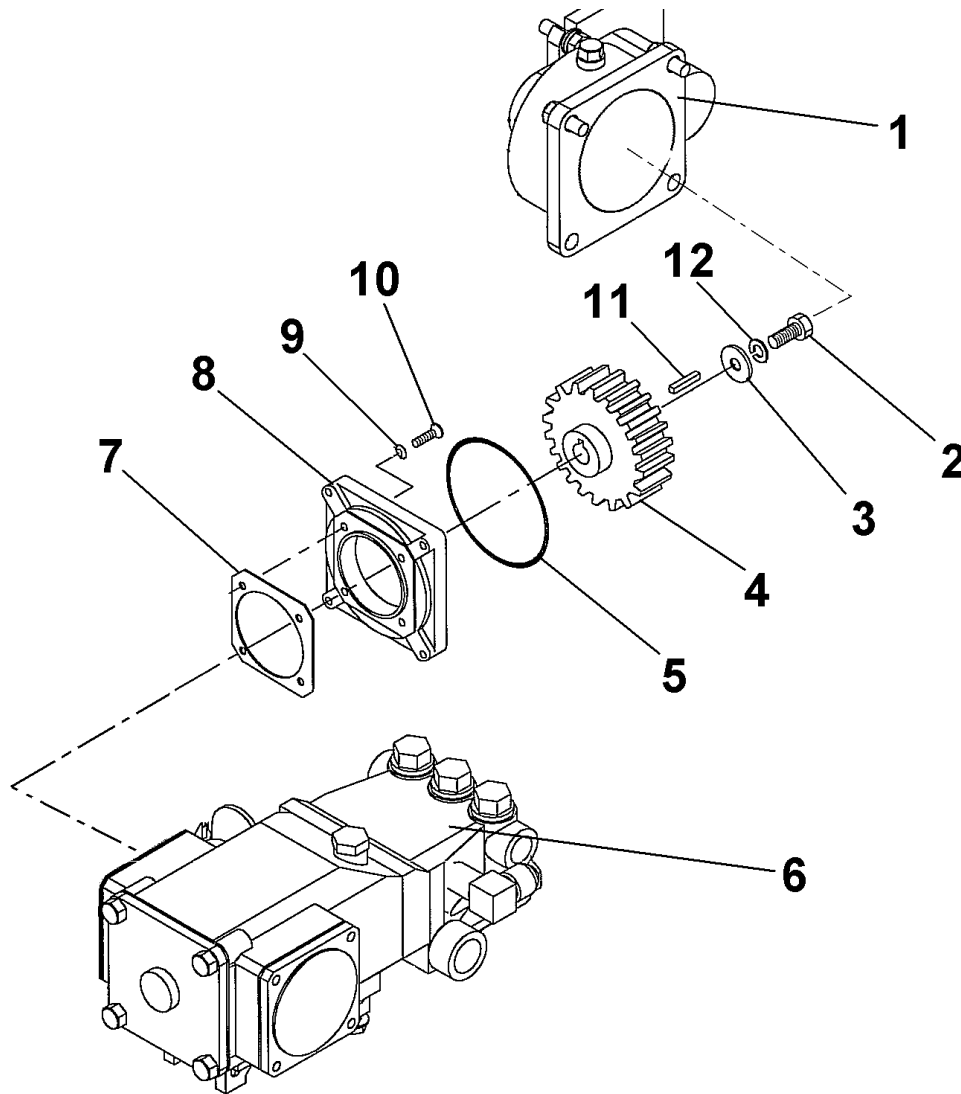

Figure 3. High-Pressure pump Flange.
1. Remove bolt (2), lock washer (12), washer (3), and key (11). See Figure 3.
1. Refer to figure 3 for this procedure section.
2. Align the holes on the pump (6), gasket (7), and flange (8). Fasten with screws (10) and washers (9).
3. Rub a light coat of clean lubricating oil on the o-ring (5) and place it in the groove on the flange (8).
4. Place the key (11) in the recess in the spur gear (4) and slide the gear on the pump shaft.
5. Secure the gear with washer (3), lock washer (12), and bolt (2).